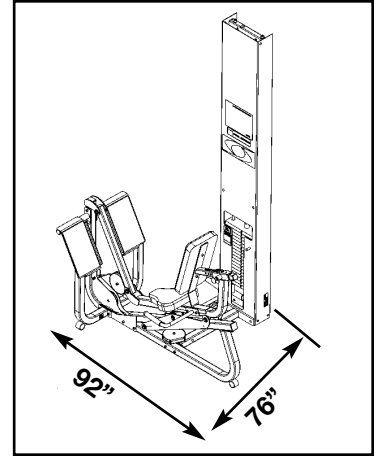

Figure 2
- E.** For Modular/Tandem configurations, allow a minimum of 92" x 76" for operating space. See Figure 2.